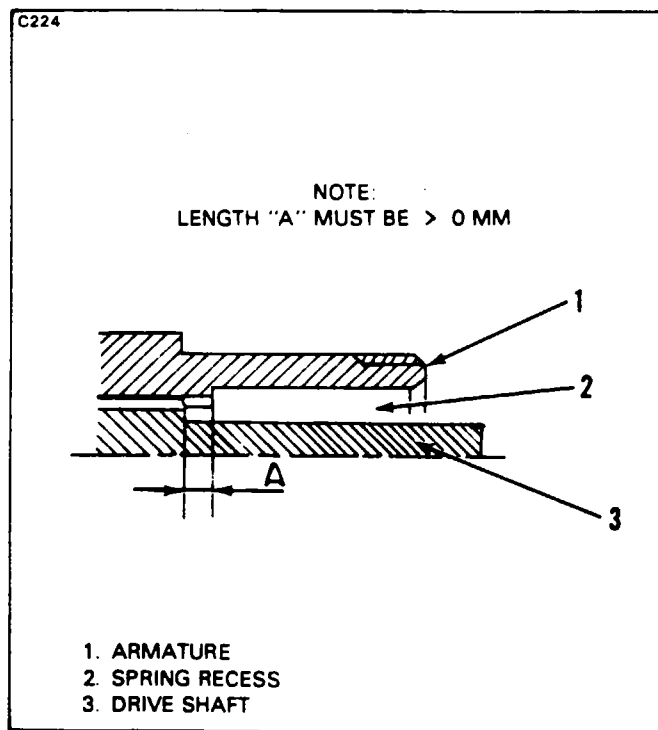

Figure 24-6. Dimension Check of Shaft Drive Sinking
29. Check that the end of the spline of the drive shaft is not engaged inside of spring recess. (See length A. Figure 24-6.
If the drive shaft is not located as shown on Figure 24-6, check damper disks, to see that they are not distorted and that they are properly fitting on their own support.
35. Block drive shaft in order to prevent its rotation by maintaining it with damper disk, then tighten nut to obtain the dimension C as shown in Figure 24-6.